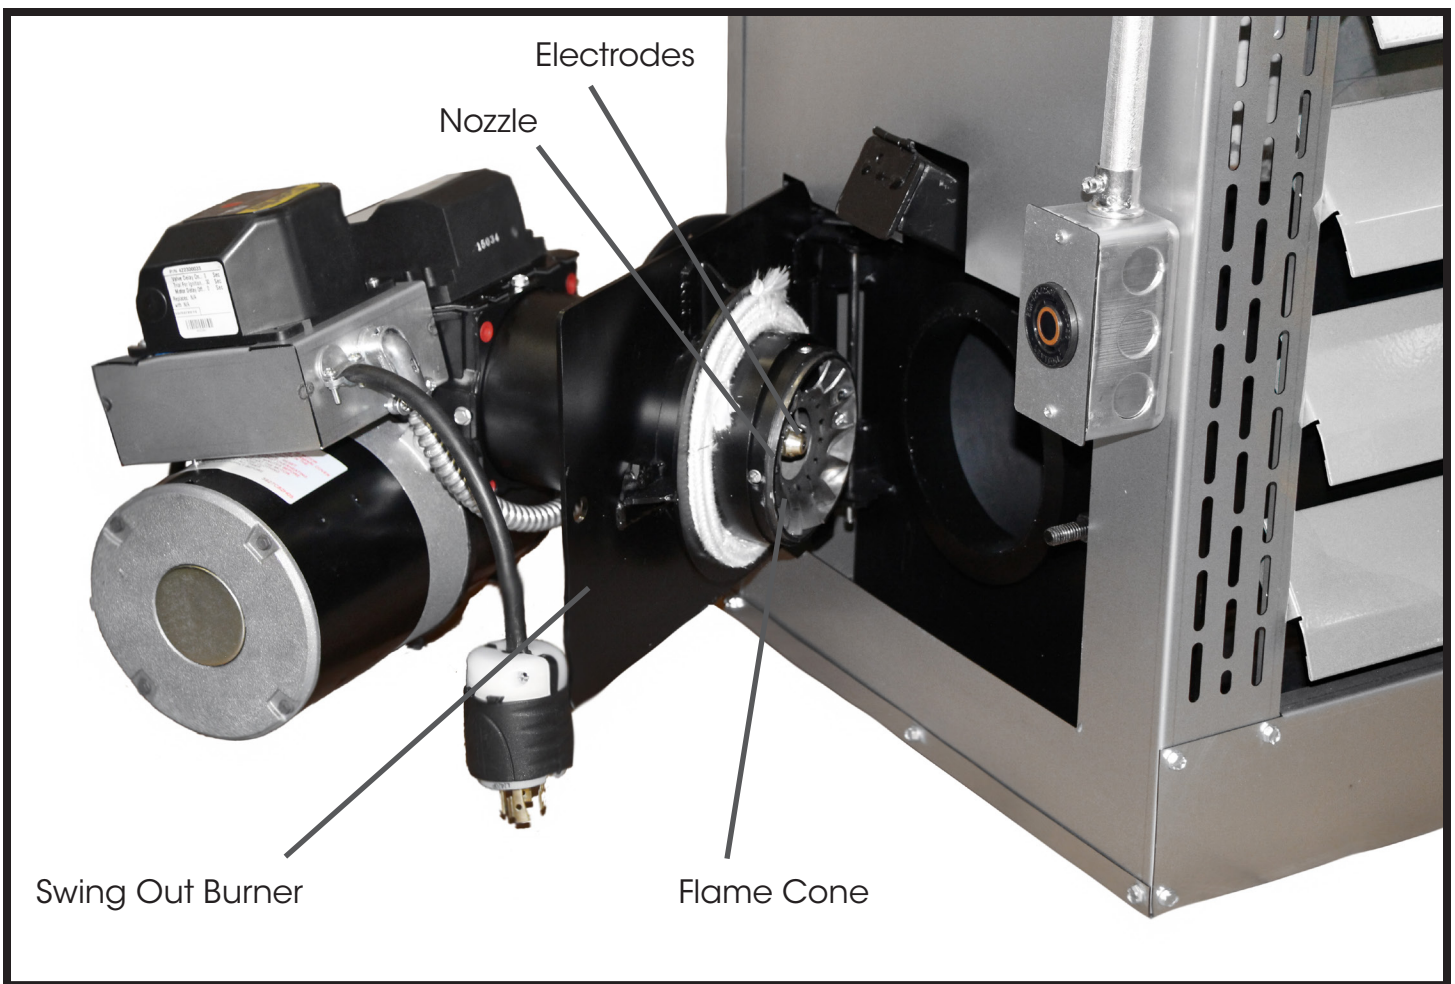

Figure 6 - Burner Door View
- Clean the nozzle, flame-cone and oil heater block. Remove one (1) x 9/16 nut from the burner side of the cabinet to swing the burner away from the unit to easily access and clean the nozzle and flame-cone. (figure 6 below).
- Replace nozzle as needed when flame deteriorates with no retention at flame cone, depending on usage (figures 6, 7, 8 and 9 below). Will lose efficiency due to erosion. This can be accessed by swinging the burner clean out door open (figure 6 below).
- **IMPORTANT:** TO TURN POWER OFF, Remove electrical plug from heater cabinet to burner. Remove 9/16" burner securing nuts, remove the burner side clean-out door. Remove nozzle with 5/8" socket (figures 6 and 7 below).
To adjust, remove burner from cabinet (figure 6 below), loosen Preheat Sink securing nut and set screw, push fore or aft as needed. **WARNING:** This adjustment is done at the factory and should not be moved unless figure 8 dimensions have been altered.
♣ No oil to burner	♣ Check pump screen; remove pump cover and clean if needed. Using vent bleeder port, re-prime pump (figures 6 & 7)